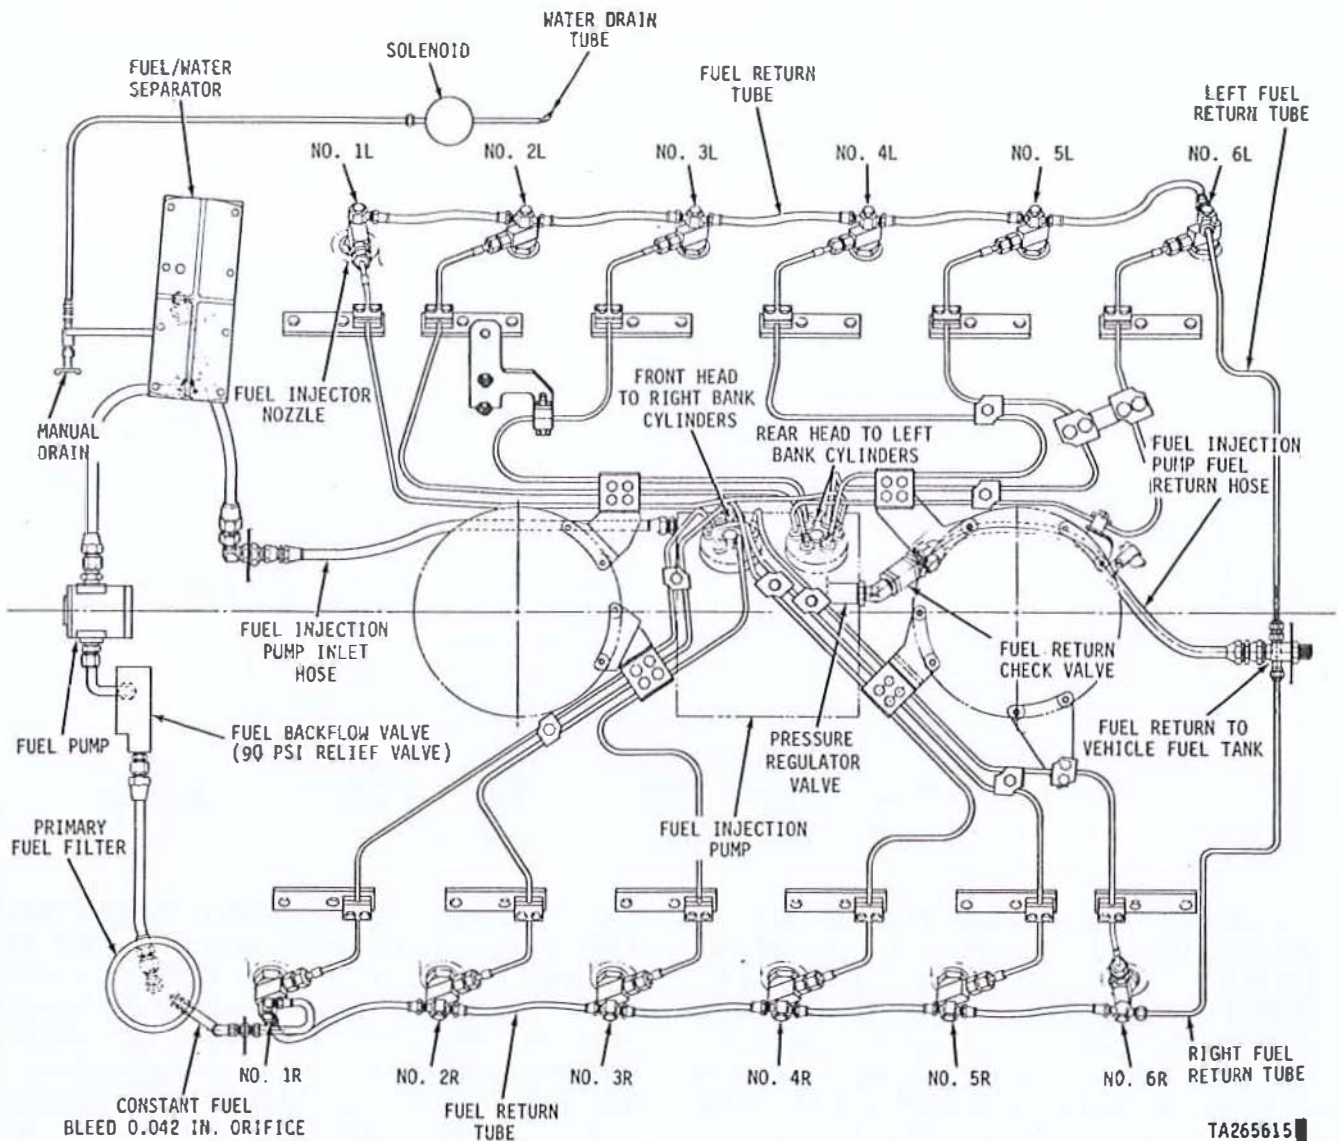

Figure 1-11. Main fuel system – schematic diagram, models AVDS-1790-2C and AVDS-1790-2D.
**c. Fuel Injector Nozzles and Tubes.** Twelve fuel injector nozzles (fig. 1-11), one per cylinder, are used to inject fuel into the combustion chambers. Twelve fuel injector tubes of equal length carry the fuel from the fuel injection pump to the nozzles. The nozzles on each cylinder bank are interconnected by fuel return lines to provide a path for the return of excess fuel.
stantly removes a metered amount of fuel and returns it to the main fuel tank through the fuel injector nozzle drain lines. This continuous drain, from the bottom of the filter, removes water in the free state that has been filtered from the fuel by the primary fuel filter element. The replaceable element fuel/water separator type filter is mounted on the left front of the engine. Fuel from the vehicle fuel tank passes through the primary filter before entering the engine fuel pump. The pump delivers fuel to the fuel/water separator filter and on to the fuel injection pump. Excess fuel provides pump cooling as it flows through the fuel injection pump hydraulic heads and is returned to the fuel tanks (figs. 1-11 and 1-11.1) The fuel/water separator filter unit has three replaceable ele-
**g. Fuel Return Check Valve.** A fuel return check valve (fig. 1-11 and fig. 1-11.1) is installed between the fuel injection pump fuel return outlet and the fuel return hose assembly. The valve prevents fuel flowing back to the injection pump when the fuel supply is closed.